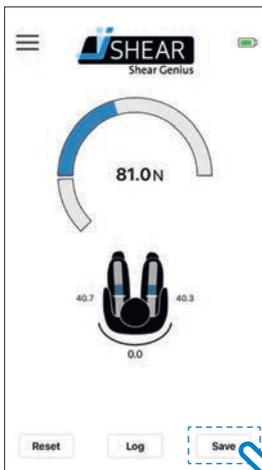

Figure 21 - Tap Save
3. Tap 'Save' in the measurement screen (see Figure 21). The Save screen opens.